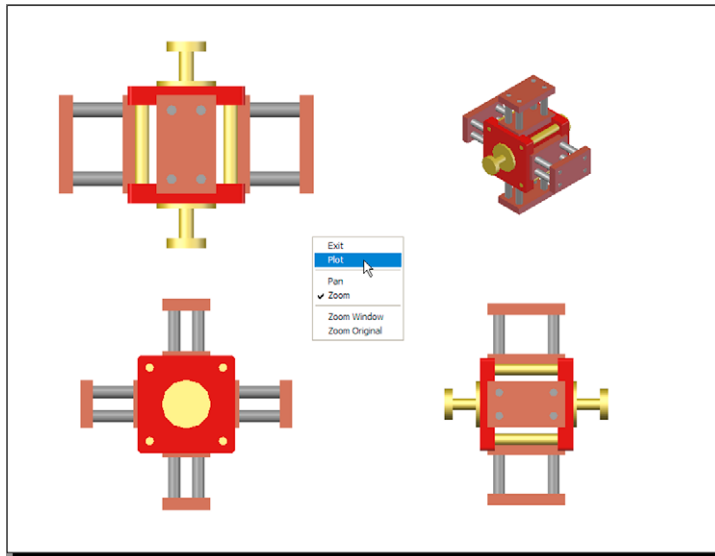

Fig. 15.37 Second example – multiple view copy
Second example – multiple view copy (Fig. 15.37)
6. If the preview is satisfactory (Fig. 15.37), *right-click* and from the right-click menu click **Plot**. The drawing plots to produce the required four-viewport hardcopy.